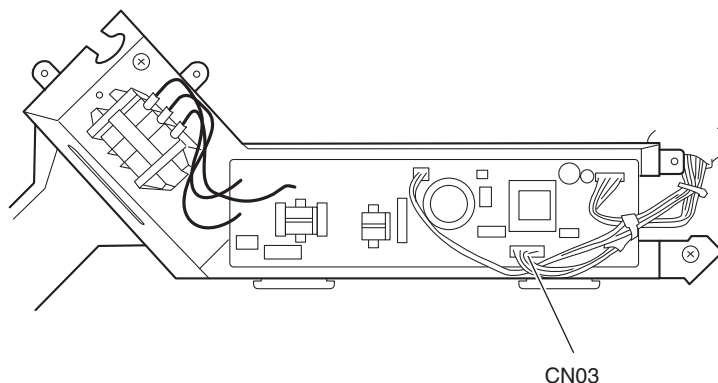

Fig.18
- (3) Disconnect the connector CN03 (DCM 6P) in the power box. (Fig. 18)
- (4) Lift the main body lower section and remove it from the main body upper section.